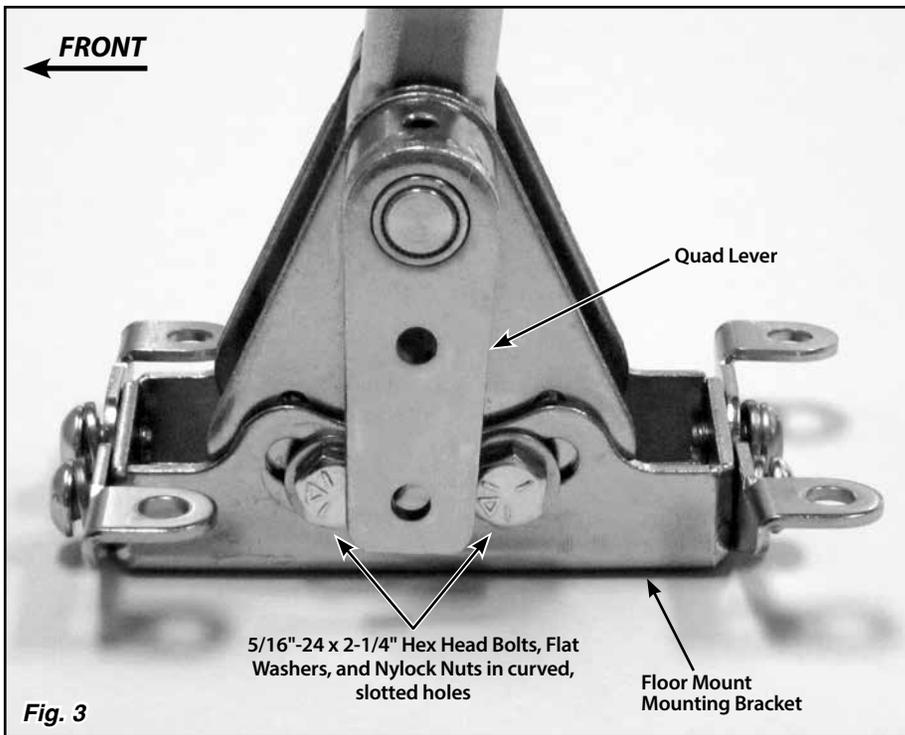

Fig. 3
Step 4: Make sure the two 5/16"-24 x 2-1/4" hex head bolts and nylock nuts that are in the curved, slotted holes in the floor mount mounting bracket are tight. Place the Shifter in the desired location on the vehicle's floor. Make sure the Shifter Lever will not interfere with the dash when in Park, or with the seat when in low gear (you may need to temporarily install your Shifter Lever to verify). The shifter assembly may be tilted forward or backward if needed by loosening the nylock nuts on the two 5/16"-24 x 2-1/4" hex head bolts that are in the curved, slotted holes in the floor mount mounting bracket. Retighten the nylock nuts once you have the shifter assembly at the angle you want. **Fig. 3**